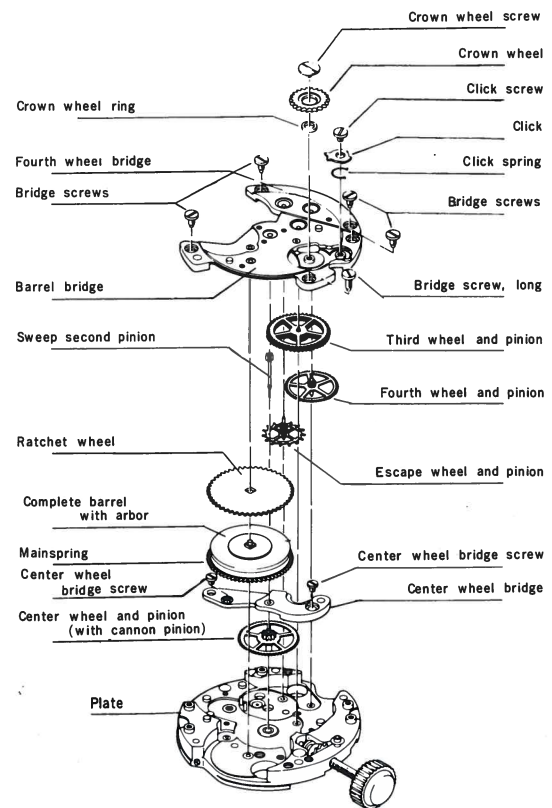

Fig. 11 Force Transmission Mechanism
4)-1 Exploded view of the force transmission mechanism Fig. 11